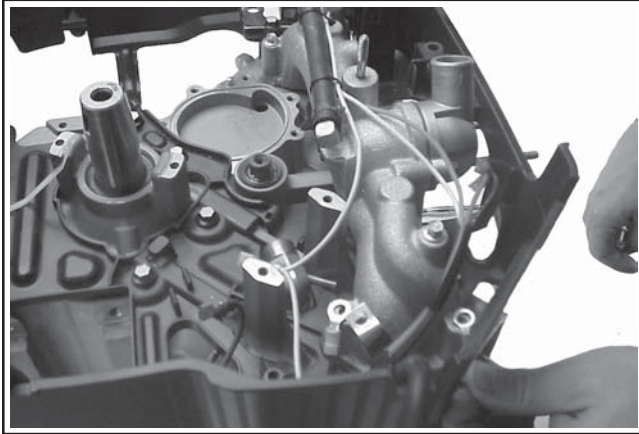
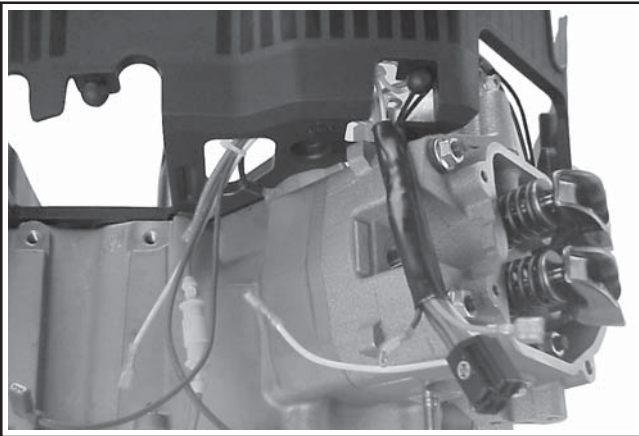

Figure 11-52. Wiring Harness (Top) Routing with Hose in Place on Fitting.
Figure 11-53. Wiring Harness out Through Openings in Lower Housing.
2. Route the wiring harness as shown in Figure 11-52, and out through the openings in the blower housing. See Figure 11-53. Attach the clip encasing the wiring harness and the shorter ground lead to the #1 side, short screw location, closest to the crankshaft. Attach the remaining longer ground lead with the short screw furthest